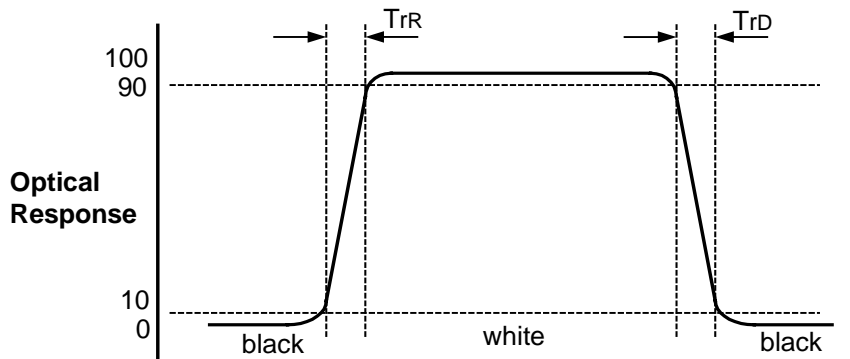

FIG. 3 Response Time
4. Response time is the time required for the display to transition from black to white(Rise Time,  $Tr_R$ ) and from white to black(Decay Time,  $Tr_D$ ). For additional information see FIG 3.